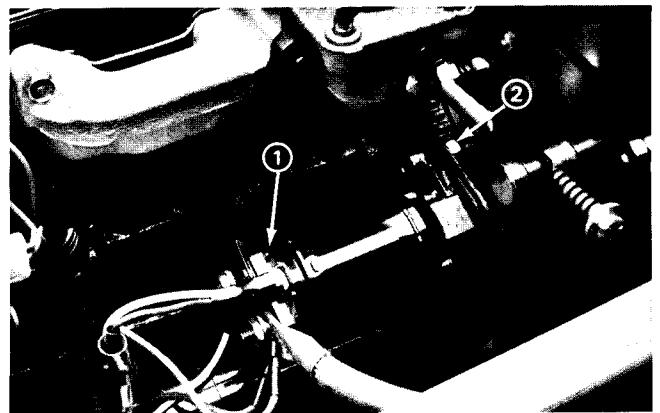

Figure 44
2. Disconnect the wires from the starter solenoid (Fig. 44).